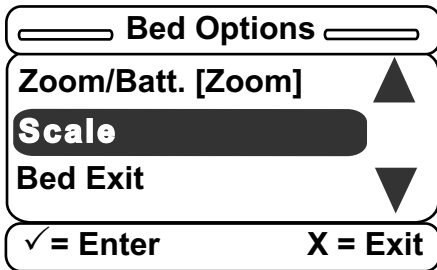

Figure 32 – Bed Options menu
- After you set the **Zoom/Batt.** option, you will return to the Bed Options screen. The next item you need to set will be highlighted (Figure 32).